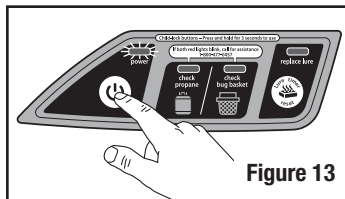

Figure 13
- 4. Start Mosquito Vacuum.** This unit has child secure controls. Press and hold POWER (⏻) for 3 seconds to start the unit. The fan will start and POWER (⏻) indicator light will blink GREEN in warm-up mode until it reaches operating temperature (approximately 5 minutes) (**Figure 13**). You may hear a popping/ticking sound as the unit warms to temperature and tries to self ignite. When POWER (⏻) indicator light is steady GREEN, the Mosquito Vacuum is ready to lure and trap mosquitoes. If unit fails to light, the unit will automatically cycle through the start up routine two additional times. If still unable to start, the CHECK PROPANE icon and CHECK BUG BASKET icon on the User Control Panel will blink RED. See TROUBLESHOOTING in this manual or on the unit for help.